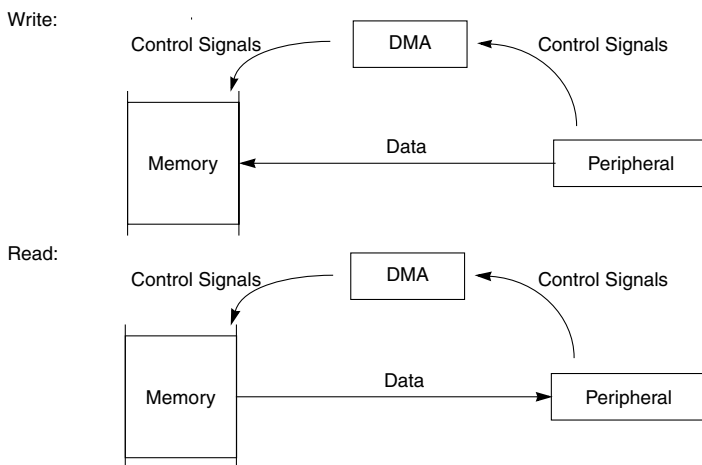

Figure 12-4. Single-Address Transfers
- Single-address transfers—An external device can initiate a single-address transfer by asserting DREQ. The MCF5407 provides address and control signals for single-address transfers. The external device reads to or writes from the specified address, as Figure 12-4 shows. External logic is required.